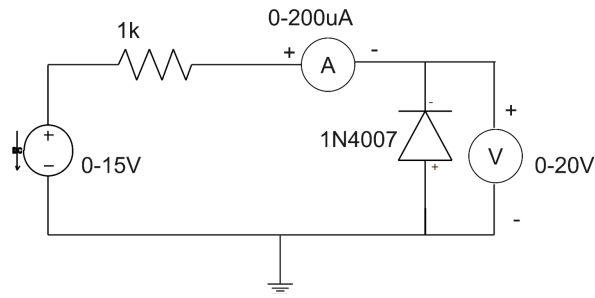

Figure 3.3: diode as reverse bias
1. Connections are made as per Figure 3.3.